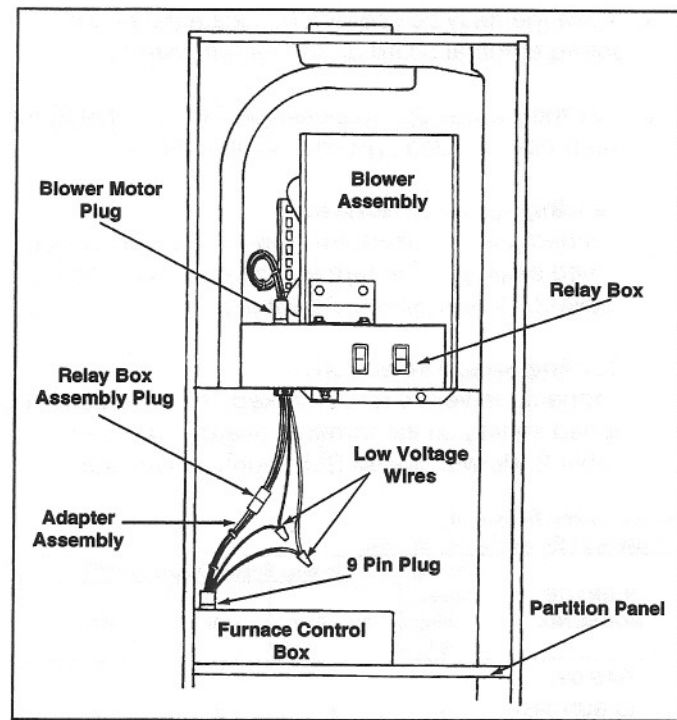

**Figure 5. Coleman Furnace Door**
- If using the 2 wire relay box, P/N 910994, the logo plate in the door must be removed as shown in Figure 5, in order to provide access to the relay box switches.